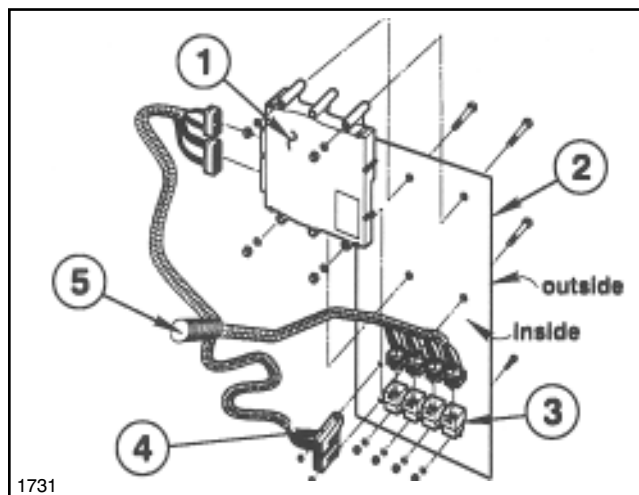

FIG. 2
2. Mount ECU to Console Cover using four (4) 1/4 NC x 2-1/2" hex hd cap screws, lock washers and hex nuts. See FIG. 2.
3. Mount four (4) Relays using 1/4 NC x 5/8" hex hd cap screws, lock washers and hex nuts.